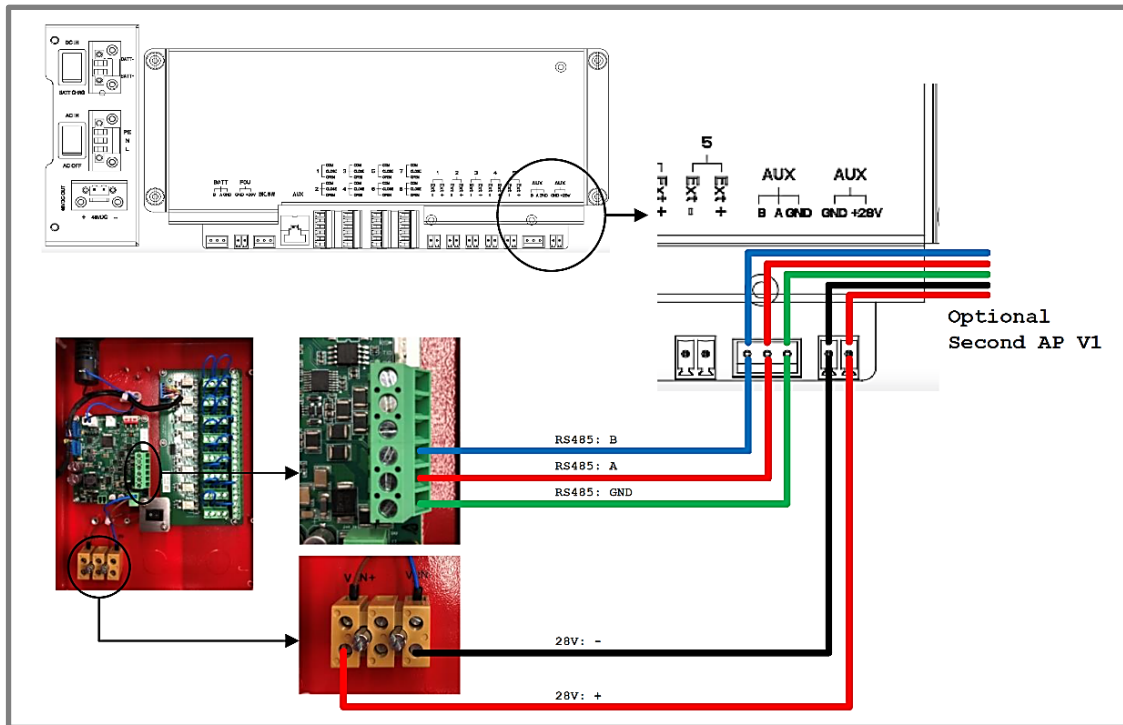

Figure 67: V3 BDA/MU and RU – AP V1 Connection
- Connect the 3 x RS485 wires between the BDA/MU/RU “AUX” (A, B, and GND) terminals to the V1 AP as shown below in Figure 67.
- Connect the +28VDC and -28VDC Power wires between BDA/MU/RU “AUX” (28VDC and GND) terminals to the V1 AP as shown below in Figure 67.